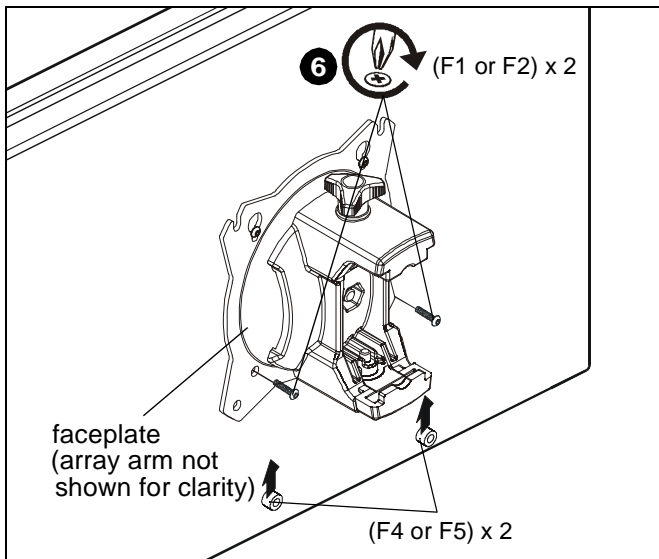

Figure 11
5. Slide two remaining selected spacers (F4 or F5) in between faceplate and display, positioning them over the *lower* two mounting holes. (See Figure 11)
6. Install two remaining selected screws (F1 or F2) through *lower* two mounting holes on faceplate, selected spacers (F4 or F5) into the *lower* mounting holes on the display. (See Figure 11)